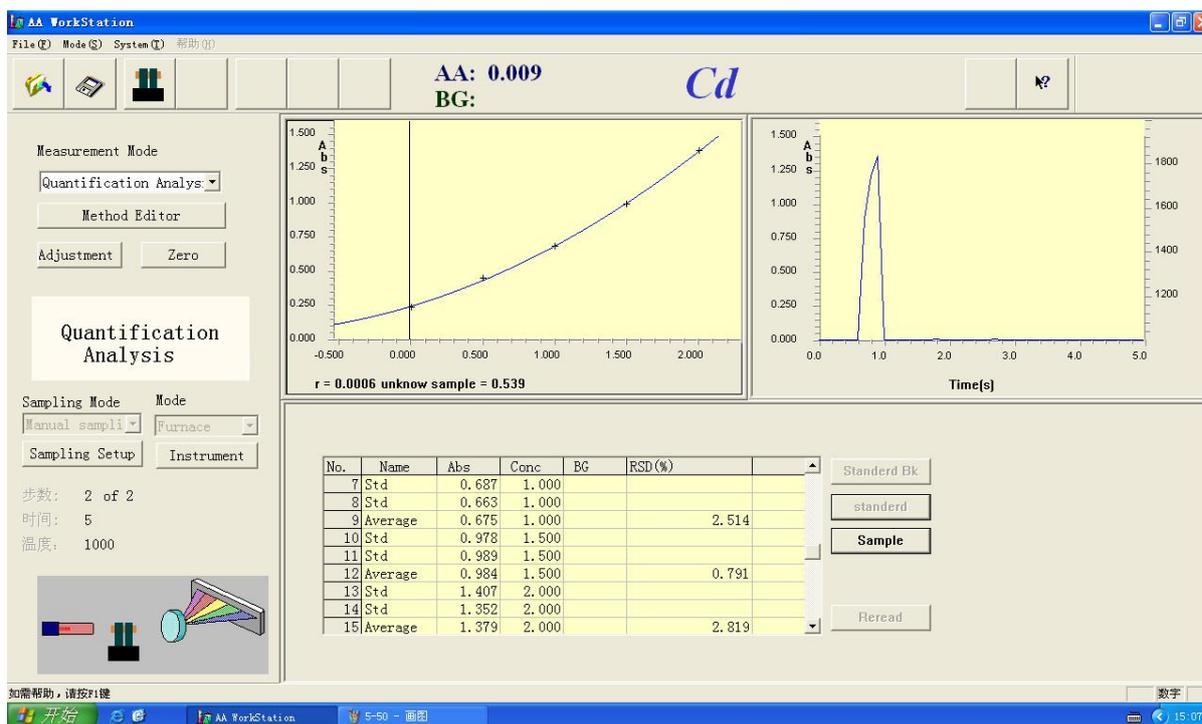

Figure 5-60
8. Start to test standard samples, the method is the same as the **Method of Addition(Linear)**. After testing, Figure 5-60 displays